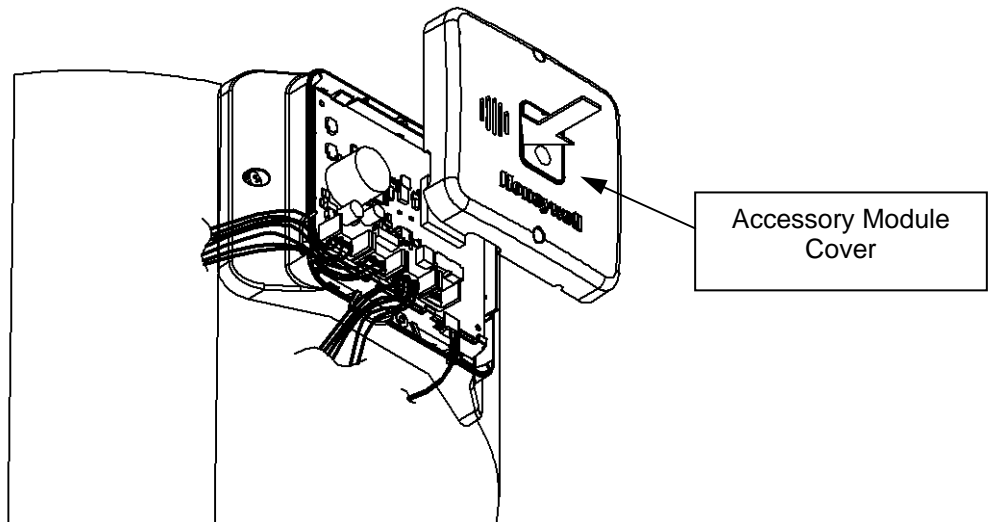

Figure 103
Step 2: With all wire harnesses properly routed, place the Accessory Module cover back onto the Accessory Module base. This is shown in Figure 103.